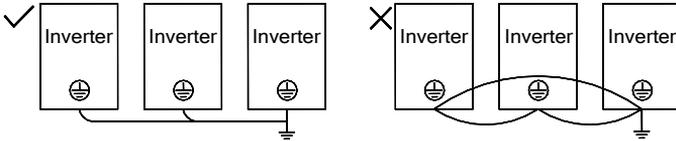

Figure 3–11 Connection Methods of Grounding Cable
- Do not allow the grounding cable to form a circuit when two or more inverters are used. Correct and incorrect grounding methods are shown in Figure 3–11.